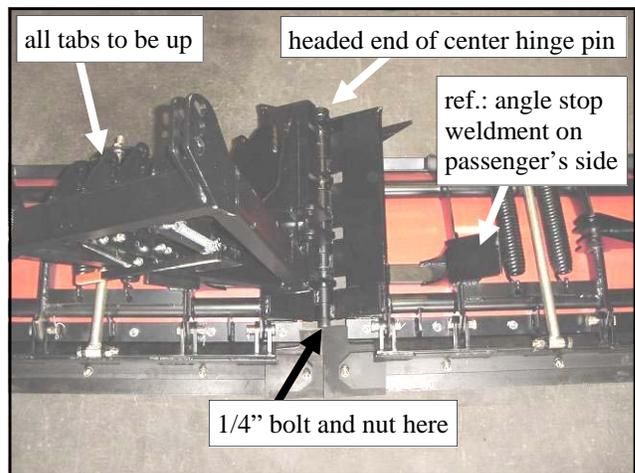
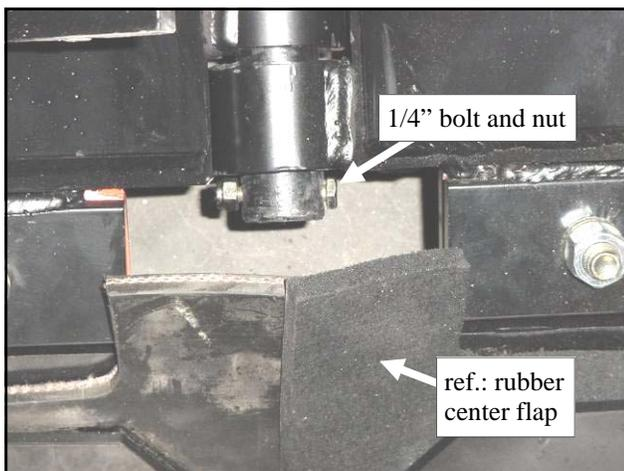

Fig. 1.3 (view of A-Frame assembly)
Fig. 1.3.1 (enlarged view of 1/4" bolt)
1.3 Per fig. 1.3, with assistance install the A-Frame weldment and the long center hinge pin as shown. The A-Frame tabs and the head of the center pin are up top in this view again. Wiggle the A-Frame assembly while an assistant pushes the center hinge pin all the way down until the head bottoms out. Pivot and rest the A-Frame weldment against the angle stop weldment on the driver's side as shown. Install one 1/4-20 x 1-3/4" long hex head bolt and locknut through the hole in the lower section of the center hinge pin where shown. See figure 1.3.1 for an enlarged view of the 1/4" bolt. Tighten the bolt.